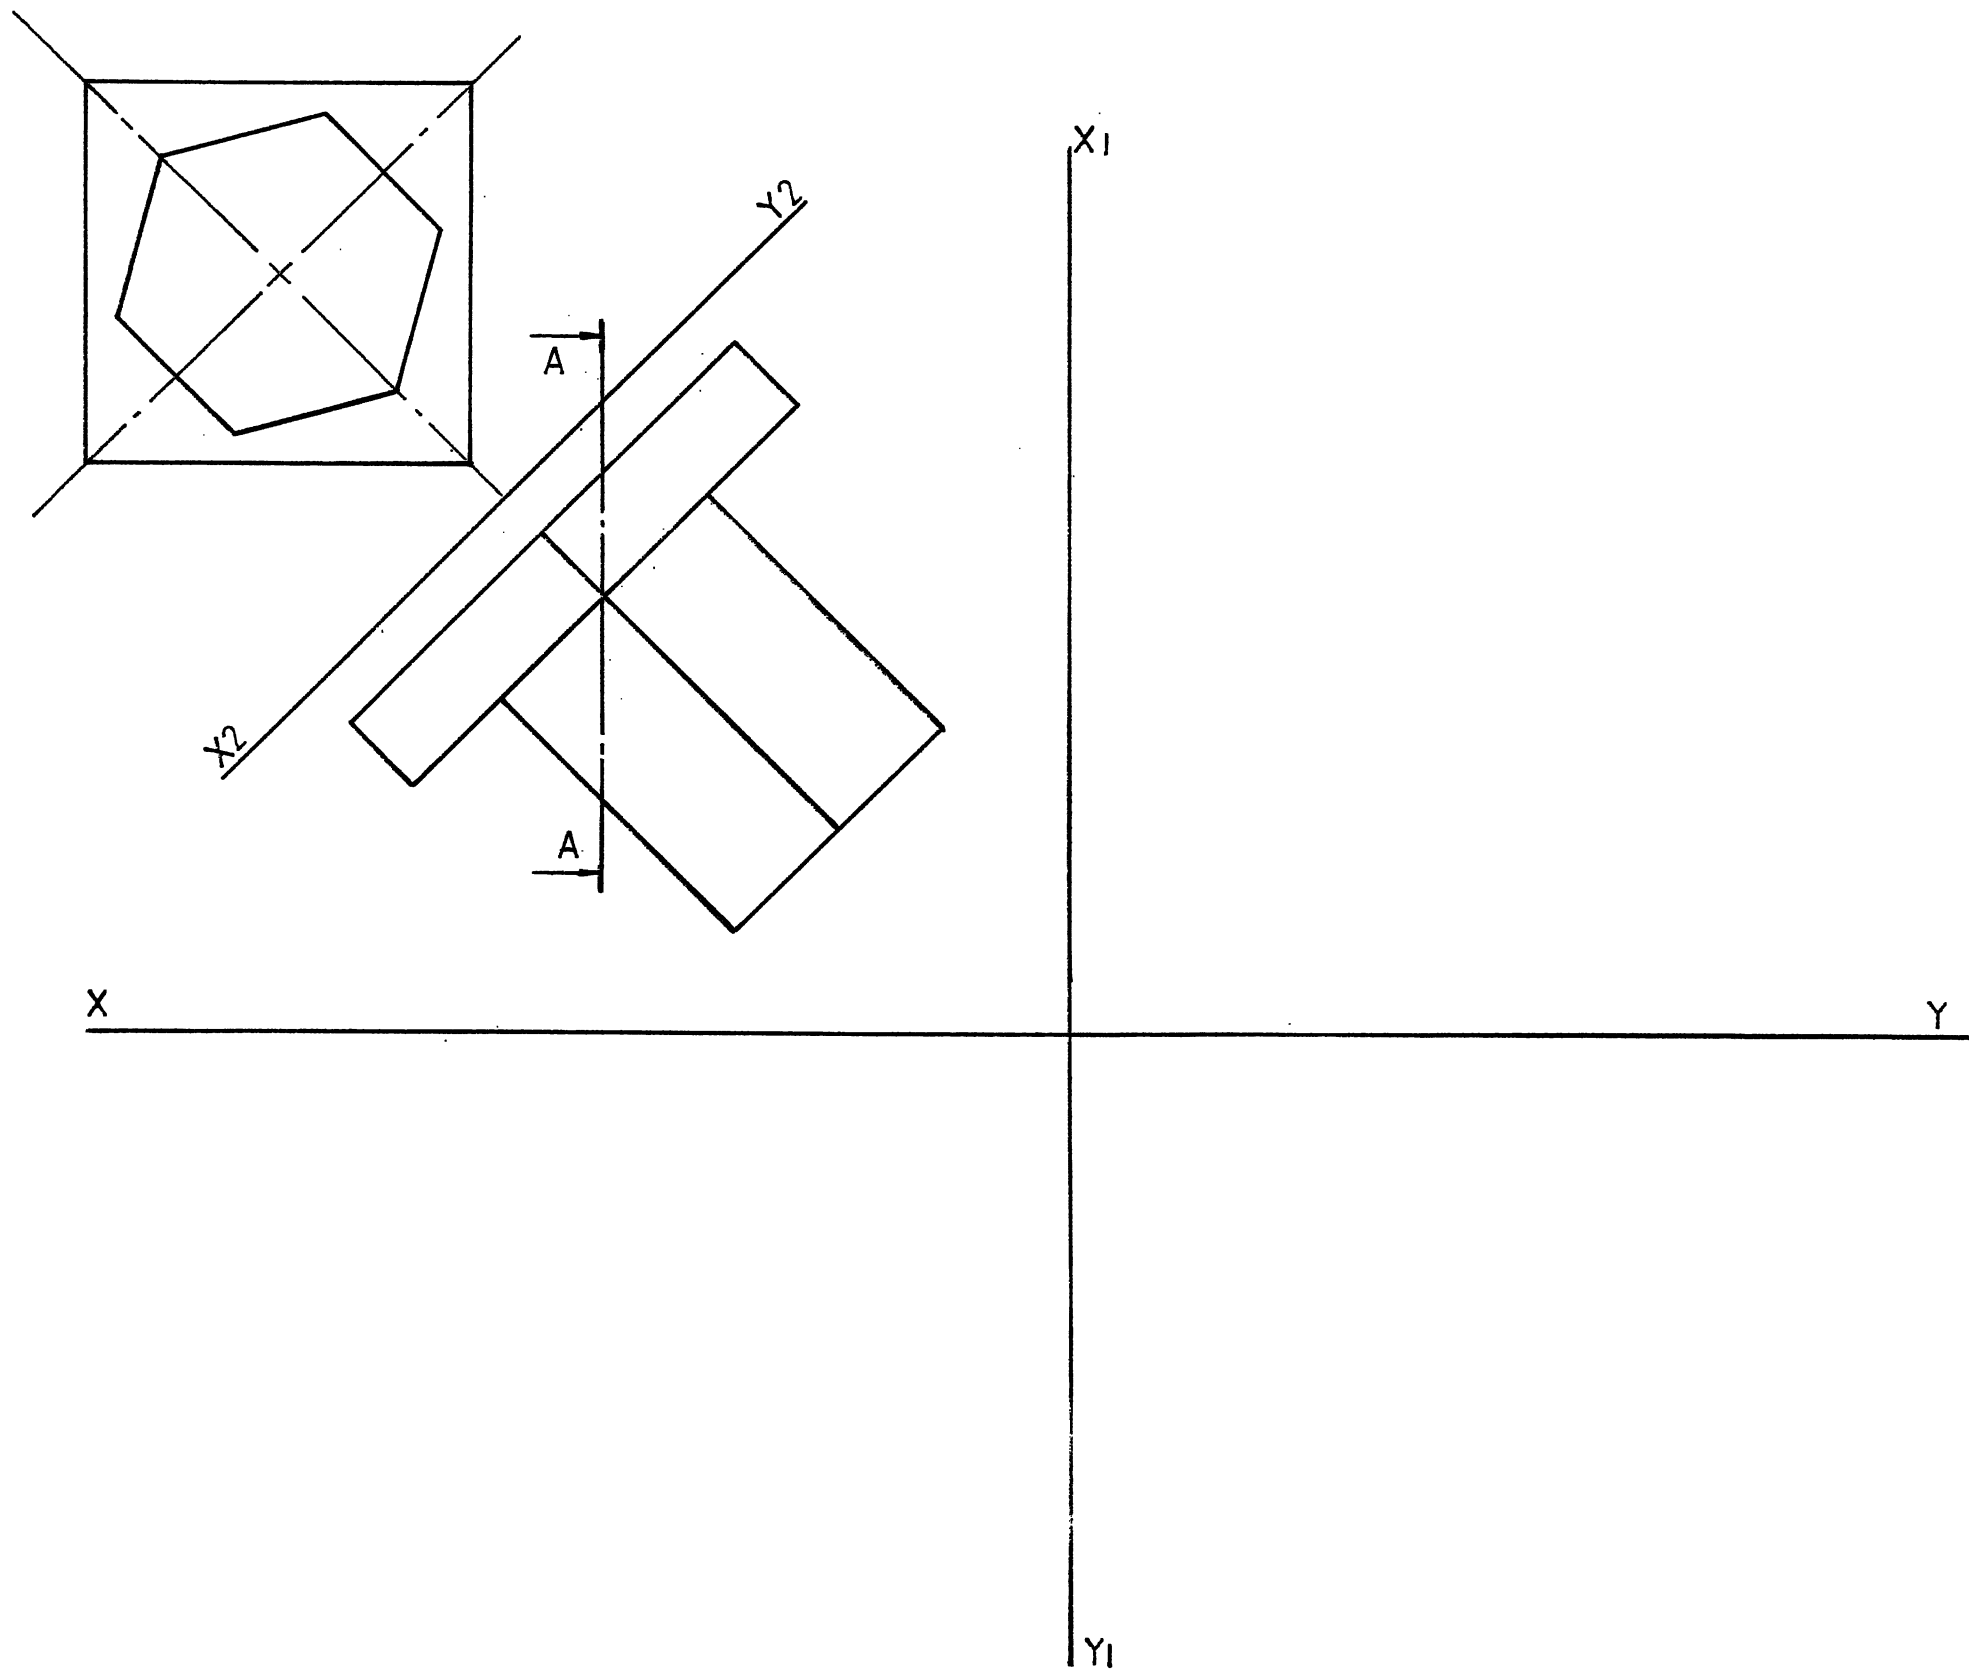

FIG. 6
**Figure 6** shows the front view and auxiliary view of a paper weight.